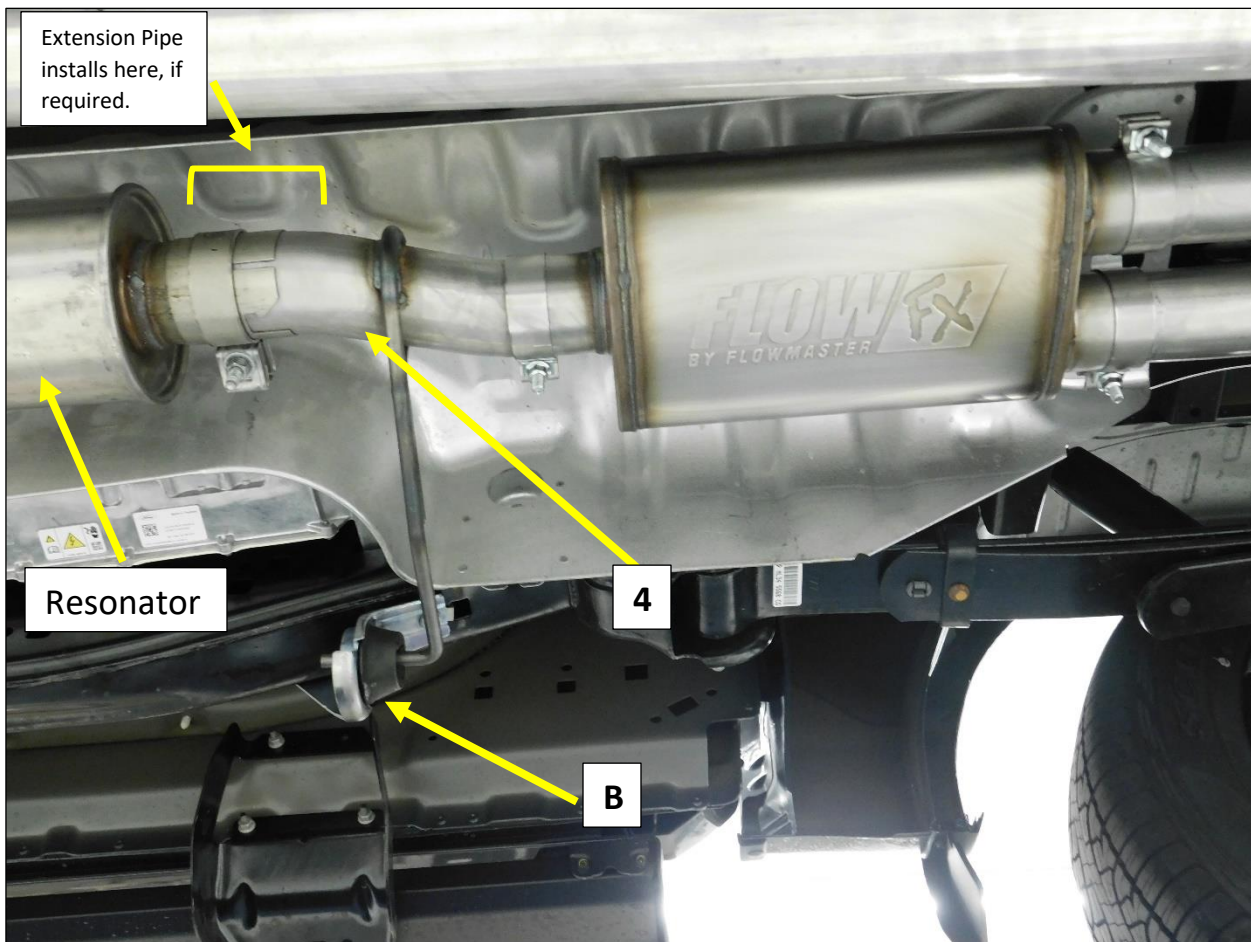

Figure 8
1. Install the muffler inlet pipe (4) into the resonator. **Fig. 8**
2. Install the muffler frame hanger (B) on to the inlet pipe hanger rod. Install the (x3) bolts and tighten. **Fig. 8**
3. Tighten the OEM clamp at the resonator to allow for adjustment. **Fig. 8**
**NOTE: If Required** - Install the muffler inlet extension pipe between the resonator and muffler Inlet pipe (4) using the supplied 3" band clamp.